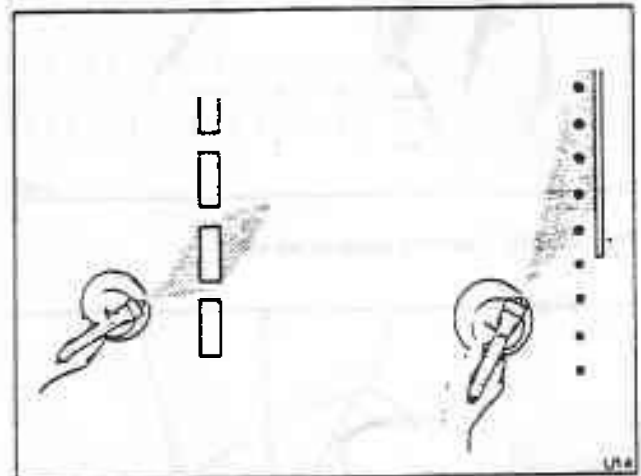

Fig. S17-36 Slender open work spraying
4. Slender open work. Grilles and similar work should be sprayed so that the majority of paint covers the largest area at each stroke of the gun. Wire or other intricate work should be sprayed at an acute angle (see fig. S17-36). It is recommended that a shield is used behind the wire, so that paint deflected from the shield will help to coat the back of the work.